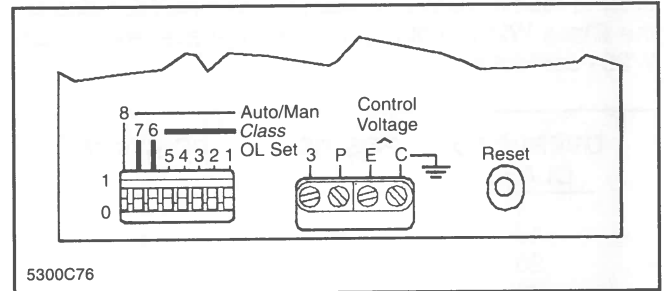

Fig. 19 DIP Switch, Terminals and Reset
Use the eight-position (8-pole) DIP switch to select the method of reset (MANUAL or AUTOMATIC), the overload protection Class (10, 20, or 30 or NONE) and the trip current rating appropriate for the motor full-load current in amperes (FLA). When a DIP switch handle is moved towards the position number (marked 8 through 1, left to right) that switch is closed (represented by "1"). When a switch handle is away from the position number, the switch is open (represented by "0"). See Figure 19. **Be sure that each DIP switch handle is moved to the full ON (1) or full OFF (0) position.**